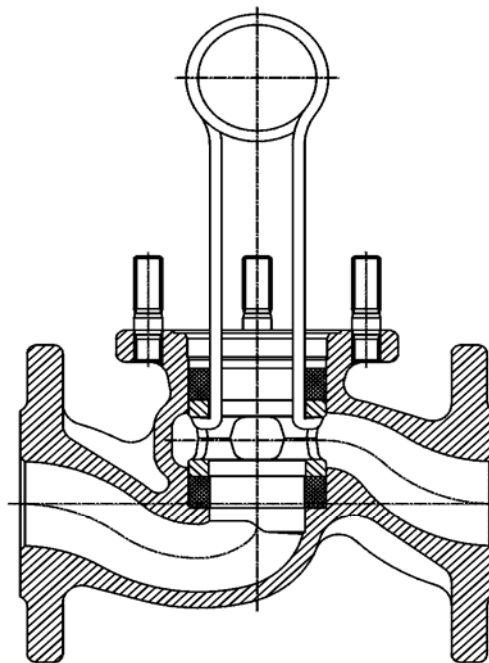

Fig.2
- *Remove upper valve ring (Pos.9) and lantern bush Fig.2*) using lantern bush extractor*